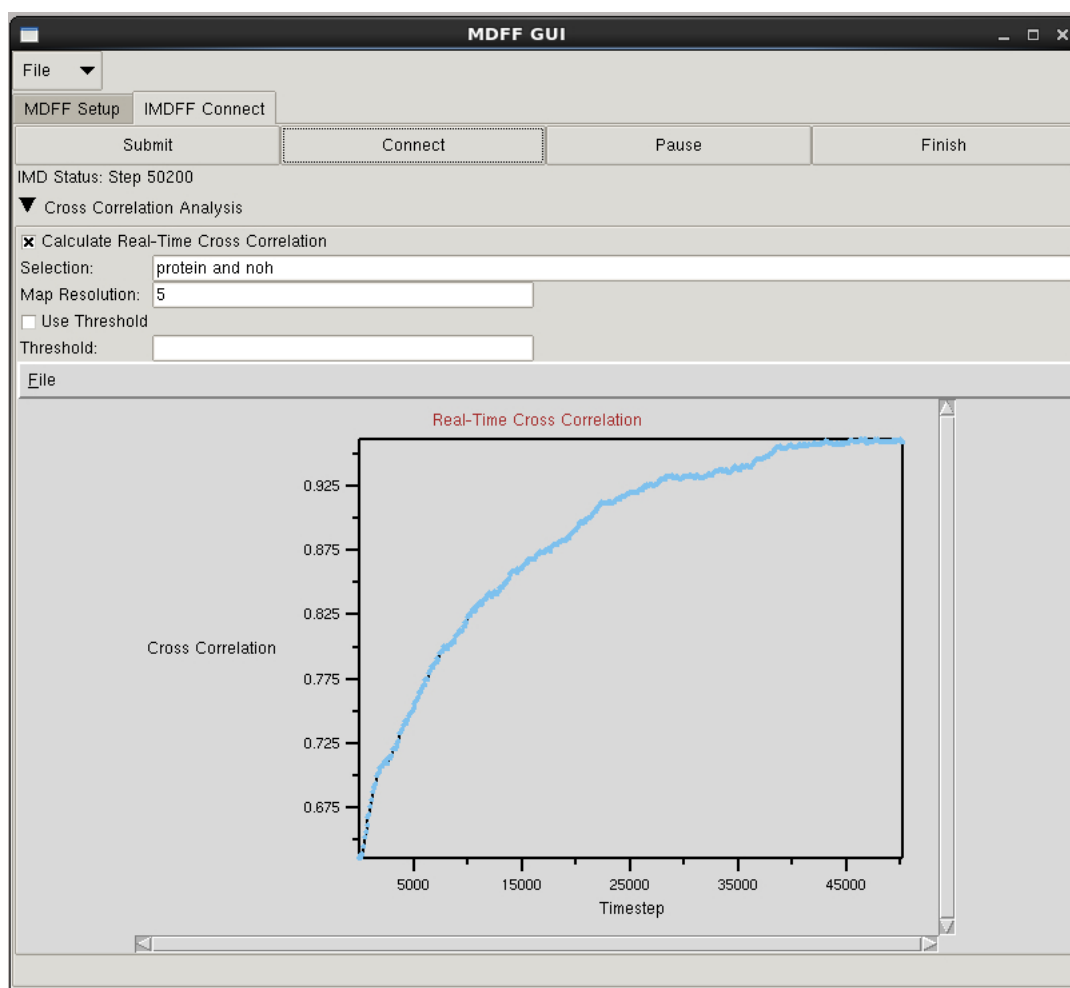

Figure 20: Analyze your interactive MDFF simulation in real-time by computing the cross correlation of the structure to the density map as the simulation runs
- 5 Before (or after) connecting to a running MDFF simulation, you can open the 'Cross Correlation Analysis' subsection in the MDFF Connect tab to perform real-time analysis of your fitting. To do so, check the 'Calculate Real-Time Cross Correlation' box. You can also set the atom selection for the piece of the structure you wish to analyze, as well as the resolution of the map (the defaults for both are fine for this tutorial). You can also set a threshold value, where any density values less than the threshold will not be included in the analysis. More information on choosing a threshold is given in Section 7.3. The cross correlation value for each simulation frame will be graphed in the area at the bottom of this tab, as seen in Fig. 20. This is a convenient way of determining how well your fitting is progressing and whether the simulation has converged.